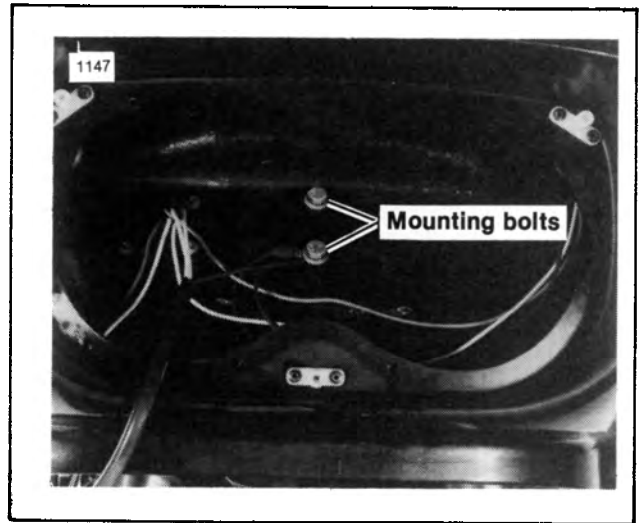

Figure 2-144. Fairing Mounting Bolts — FLT
5. See Figure 2-144. Remove the two bolts located behind the headlamp housing and remove the fairing.
1. See Figure 2-144. Install the two bolts behind the headlamp housing.